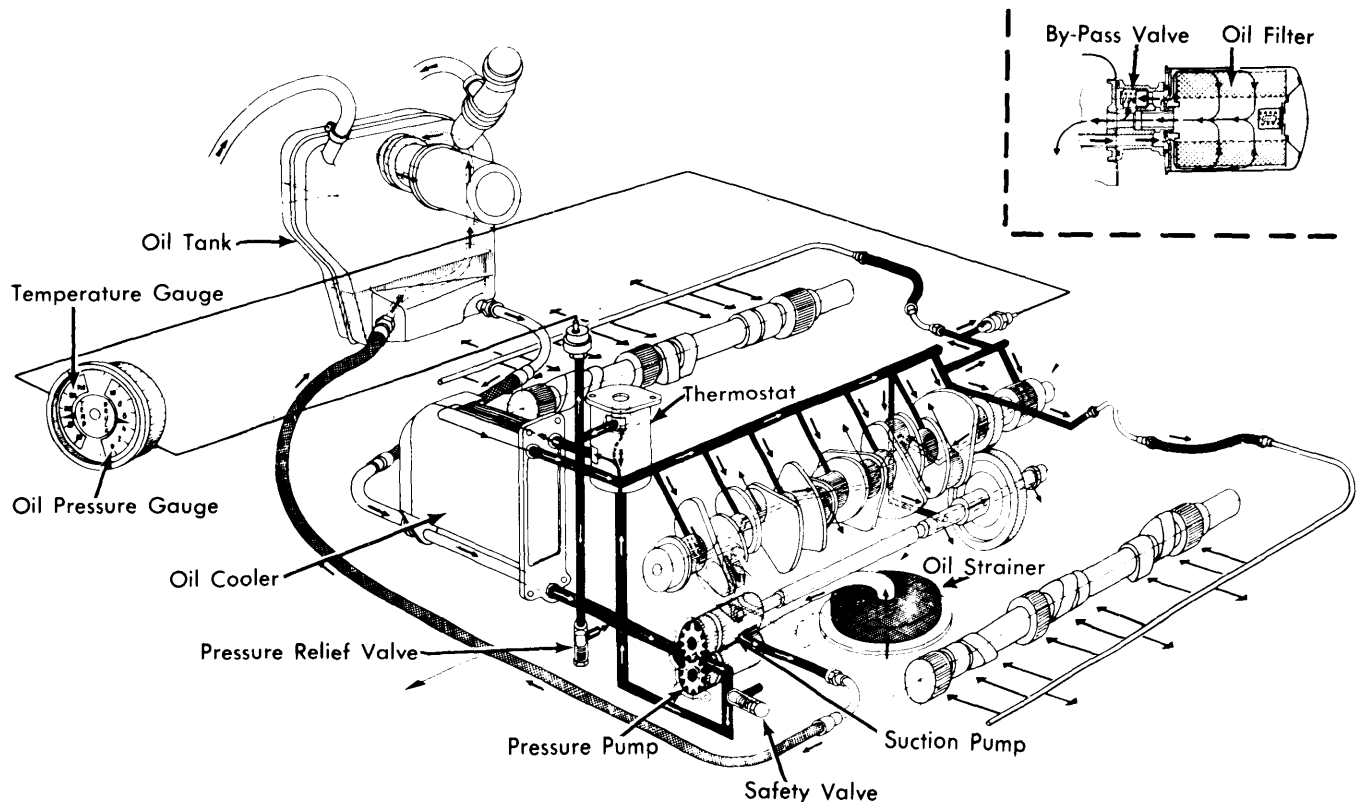

Fig. 14 Diagram Showing Porsche Engine Oil System
2) Using suitable tool (No. P 202) to rotate camshaft until dot on end of shaft is on top of camshaft vertical center line (Fig. 14). Find hole in camshaft sprocket which exactly lines-up with camshaft flange and insert dowel pin. Install lock washer and nut.